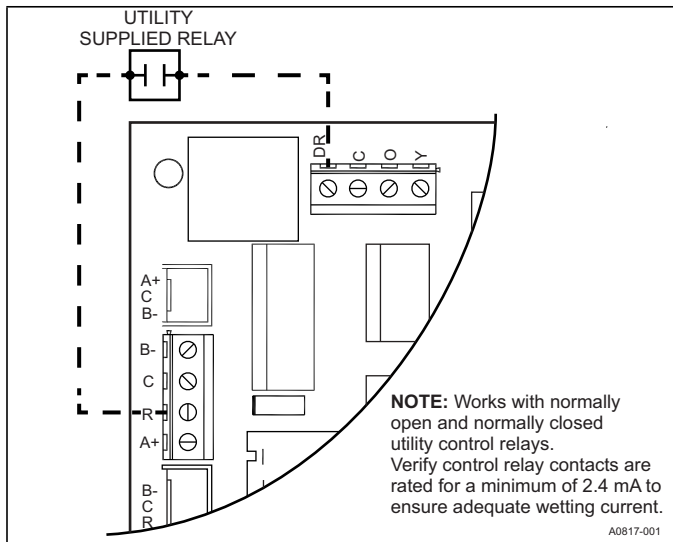
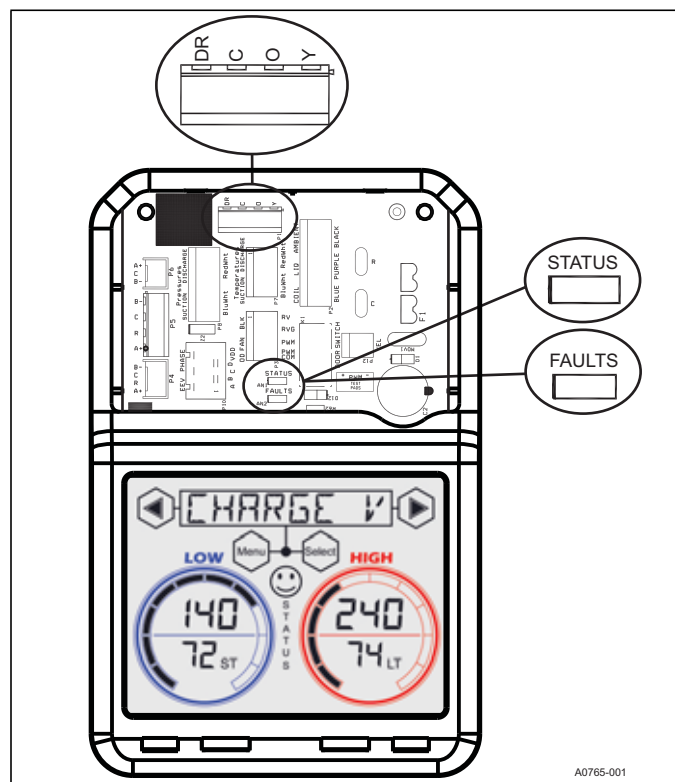

FIGURE 8: Demand Response Wiring
FIGURE 11: Main Outdoor Control and Display
The main outdoor control has a conventional 24VAC input (DR) for utility demand response signals. When a 24VAC signal is present on the DR input the HX™ thermostat will adjust the indoor temperature set-point by the user selected setting. For further details on available settings, please refer to the HX™ thermostat installation and operation manual. The DR input terminal location can be found in Figure 11 and typical wiring is found in Figure 8.
The main control board contains 2 LED's for status and fault display as shown Figure 11. The control will provide a status code indicating the state of the system using the Yellow LED as detailed in Table 5. The Red LED indicates a system fault is present. Further details of the fault can be found on the outdoor screen.